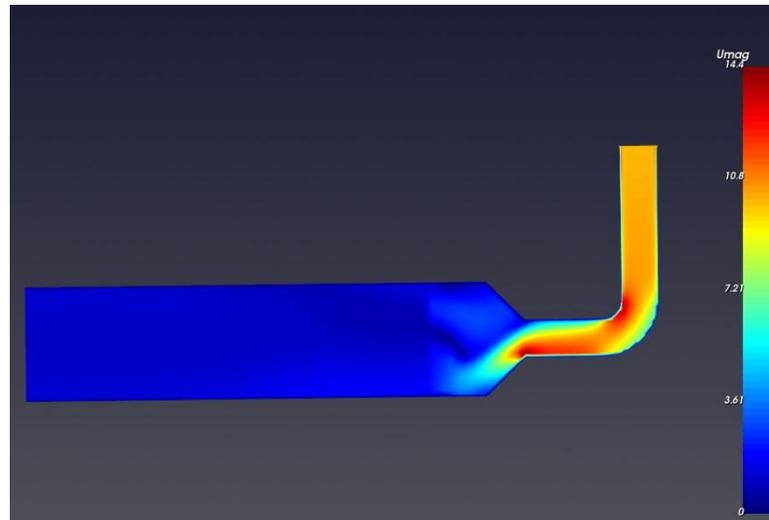

Figure 87. Velocity magnitude contour on the XY plane.
Create a default plane (XY) in **Post entities** panel and visualize Velocity magnitude ($|U|$) (Figure 87).